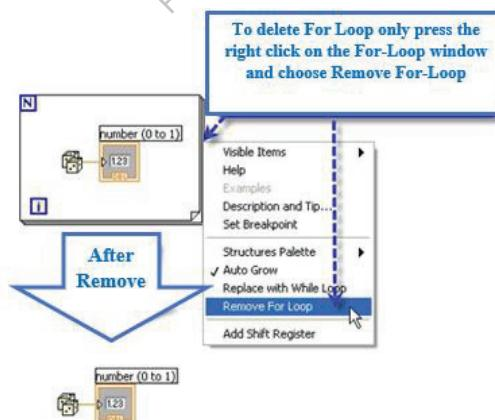

Figure 2.116: Remove For-Loop
- To delete For Loop only and keep it inside, press the right click on the For-Loop window and choose Remove For-Loop, as shown in figure 2.116.